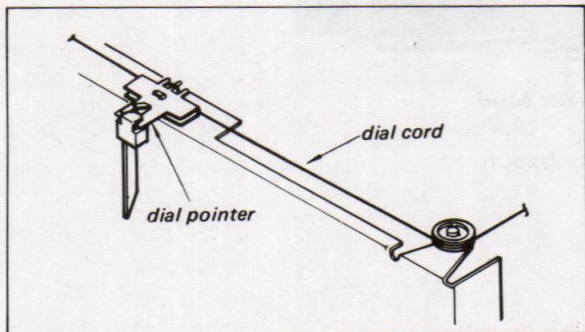

Fig. 2-10. Dial pointer installation
1. Put the dial pointer on the cord as shown in Fig. 2-10, and then tune the receiver to the local fm station. Move the dial pointer to the position where the pointer indicates the local station's carrier frequency. Apply a drop of contact cement to it.